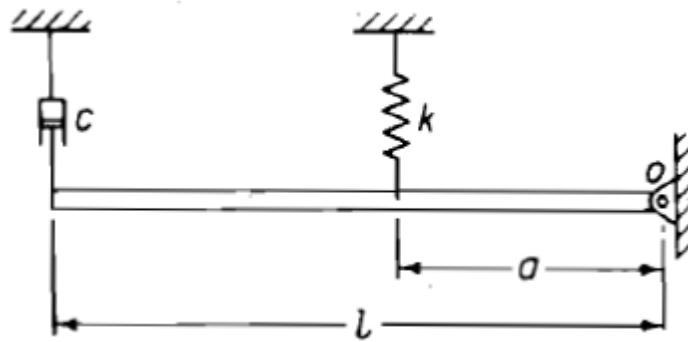

Fig.2.
12. a) Explain distributed mass and lumped mass models in the context of system idealization for dynamic analysis. (4)
- b) A rigid uniform bar of mass m and length l is pinned at O and is supported by a spring and viscous damper as shown in Fig.2. Set up the equation of motion for small oscillations of the rod and hence determine its undamped natural frequency (10)